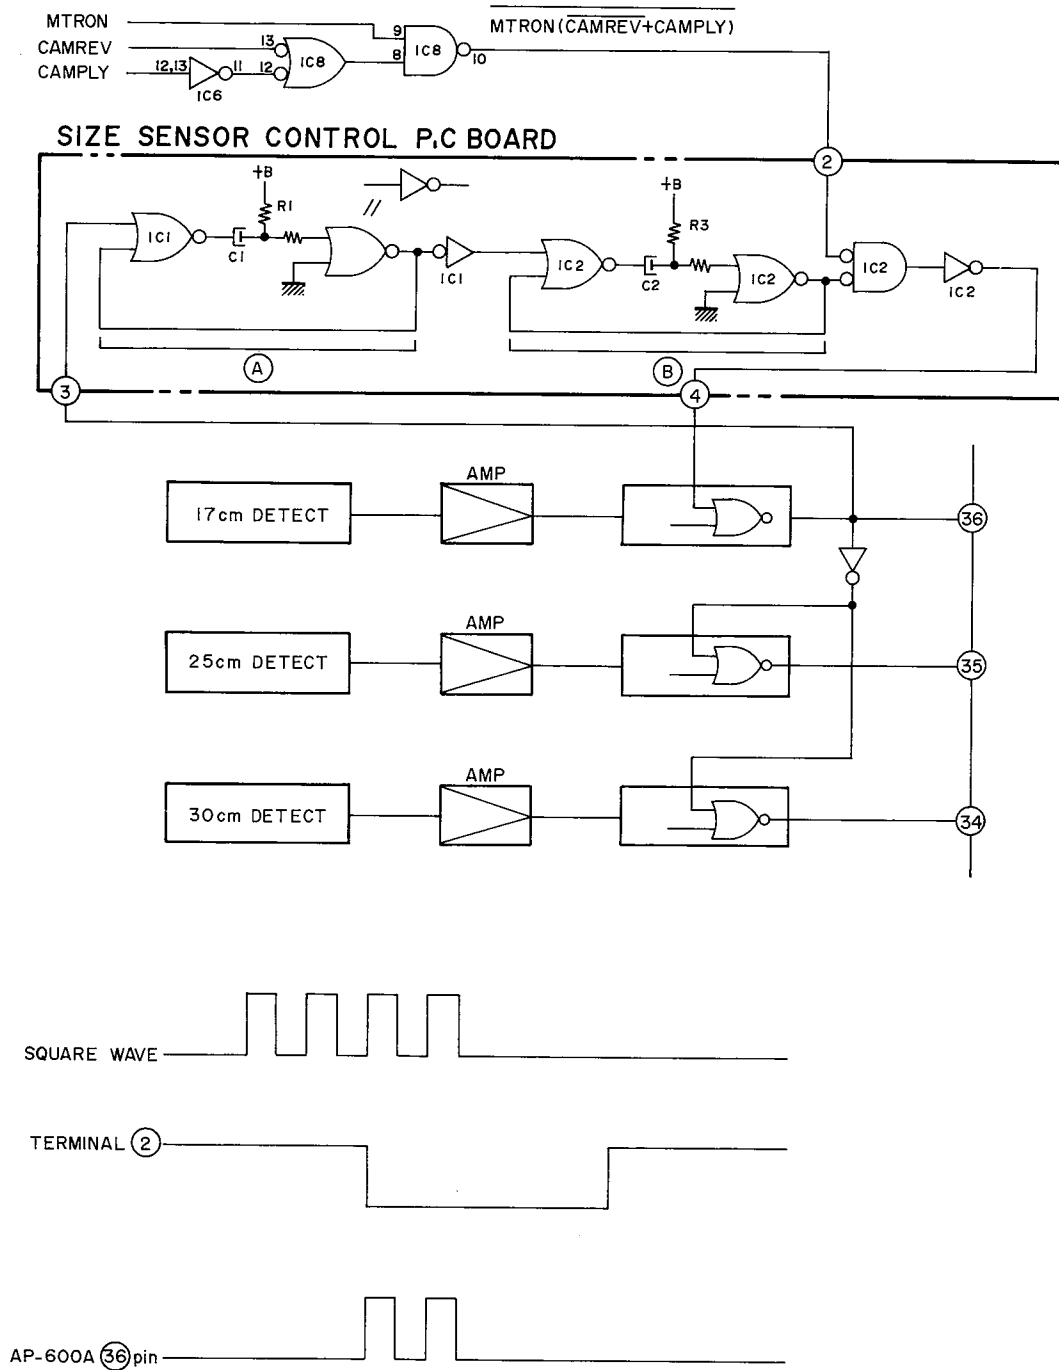

Fig. 20
Consequently, the output waveform shown in Fig. 20 below will appear at terminal ② of the SIZE SENSOR CONTROL board, and is used in controlling the period that the detection signal is applied to the CPU. The signal applied to pin ③⑥ of AP-600-A is inverted simultaneously and used as the enable signal for 25cm and 30cm detection purposes. This means that for detection of 25cm and 30cm disks, not only the outer circumference but also the inner circumference must also be detected.